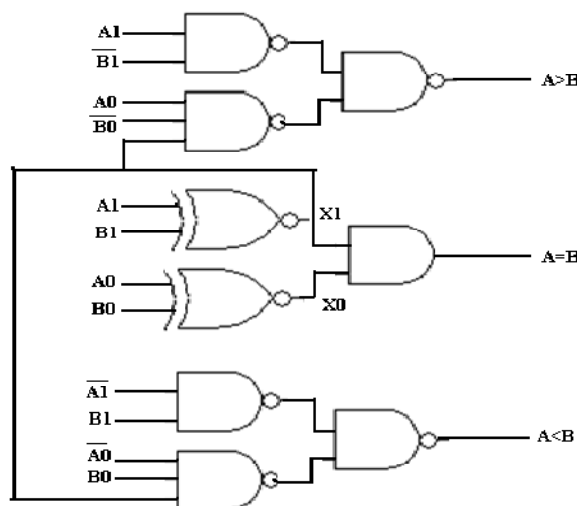

Figure 13.2: Logic gate diagram of 2-bit magnitude comparator.
1. Using figure 13.2 first we should complete NAND gate and then after getting the output we send it into NAND gate, then we should get an final output which is gives us  $A > B$ .